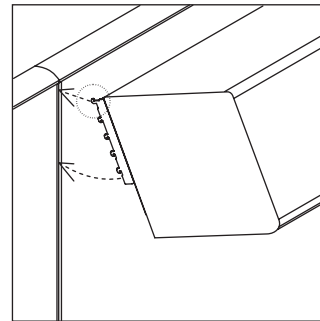

FIG. 5
1. Decide on the panel height where you want to locate the overhead unit. Holding the front edge of the overhead unit higher than the rear edge (Figure 5), slide the top safety teeth into the appropriate slots on the panel trimrails.